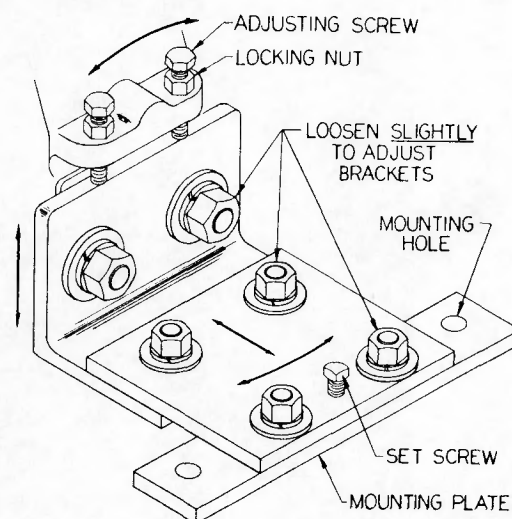

FIG. 1
- The brackets should face downward as shown in FIG. 1.
- Loosen the locking nuts on the adjusting screws (SEE FIG. 1). Slightly loosen the nuts on the mounting brackets just enough to be able to move the V-Drive during alignment.